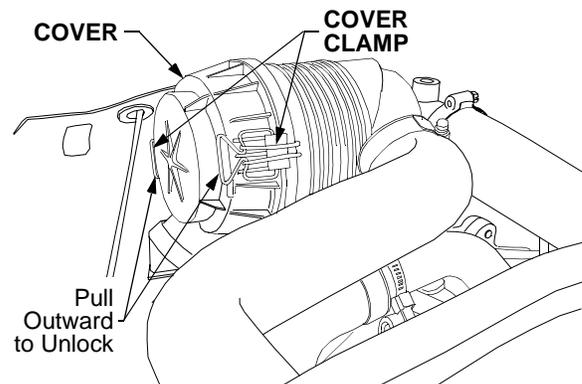

Figure 58
- Unlock the clamps to remove the air cleaner housing cover. See Figure 58.
- Position the cover on the housing. Hook the two clamps onto the rim of the housing and lock the clamps. Refer to Figure 58.